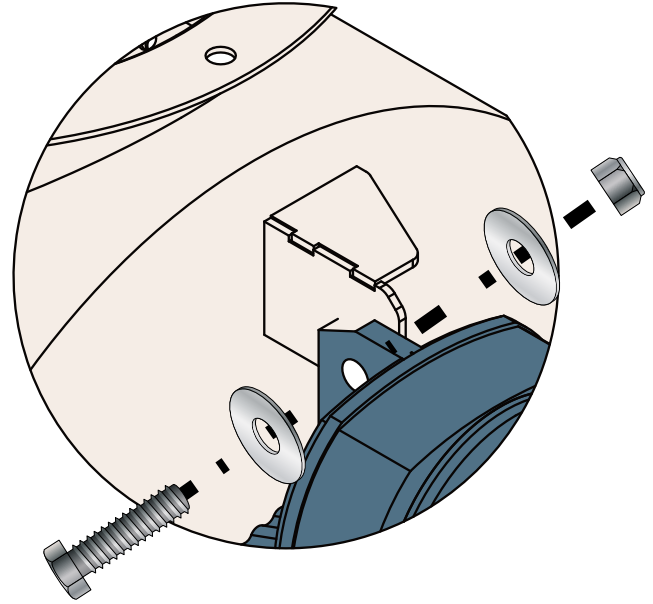

FIG. 7
- 7** Secure the Motor (B) to the Air Lock Assembly (A) using the hardware set aside from Step 1; One 3/8"-16 x 1-1/4" Hex Head Bolt (A1D), two 5/16" Flat Washers (A1E), and one 3/8"-16 Nylock Nut (A1F) and tighten fully [FIG. 7].